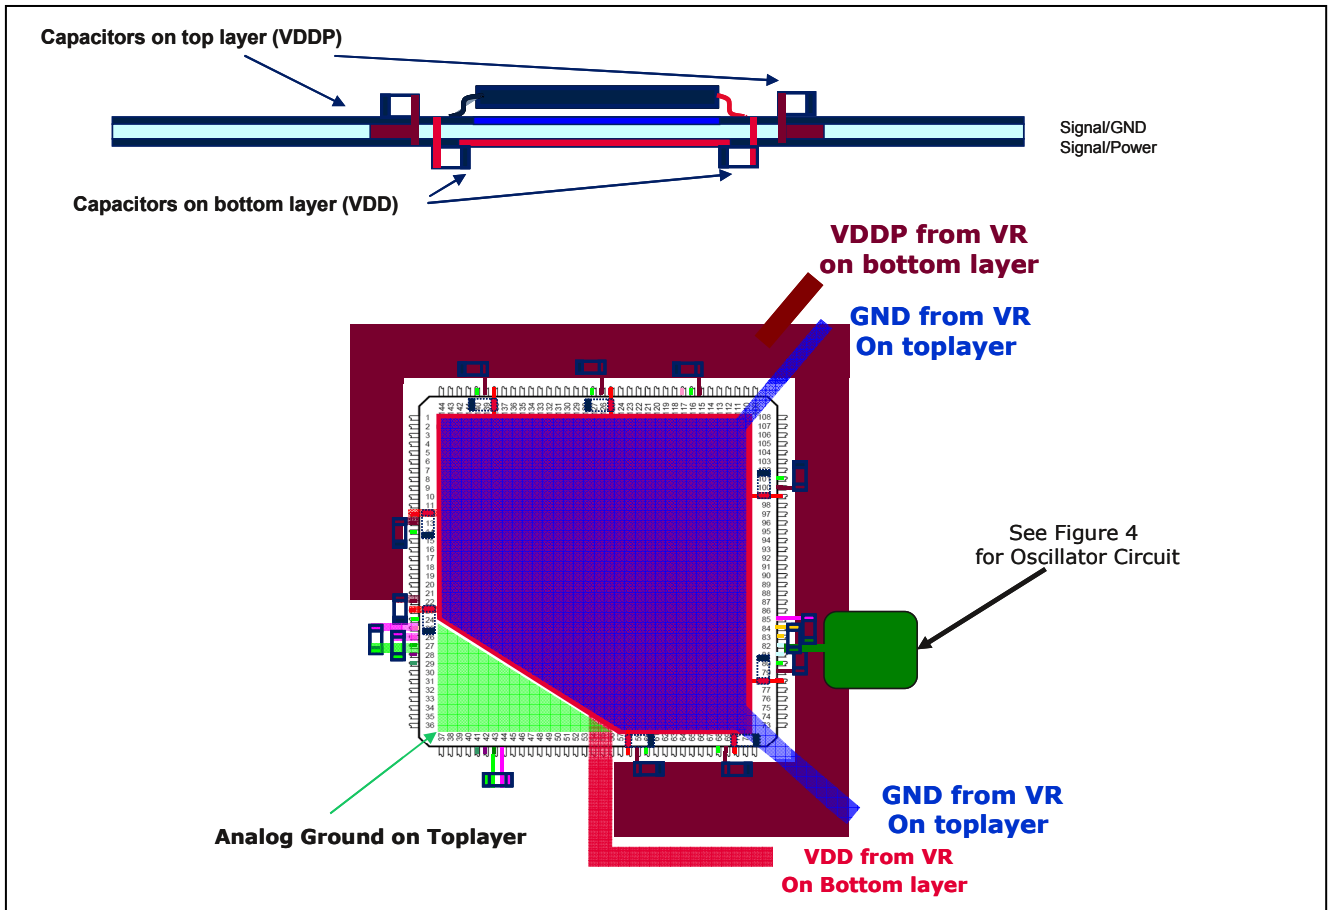

Figure 3 Layout example for decoupling of TC1736 (LQFP-176)
- The two supply domains VDD and VDDP of TC1736 should be decoupled separately (see decoupling layout example in Figure 3).
A power-plane/grounding concept example for a 32-bit microcontroller like TC1736 with TQFP-144 package can be seen in Figure 3. Alternative implementations are also acceptable and must be evaluated within application by customer.